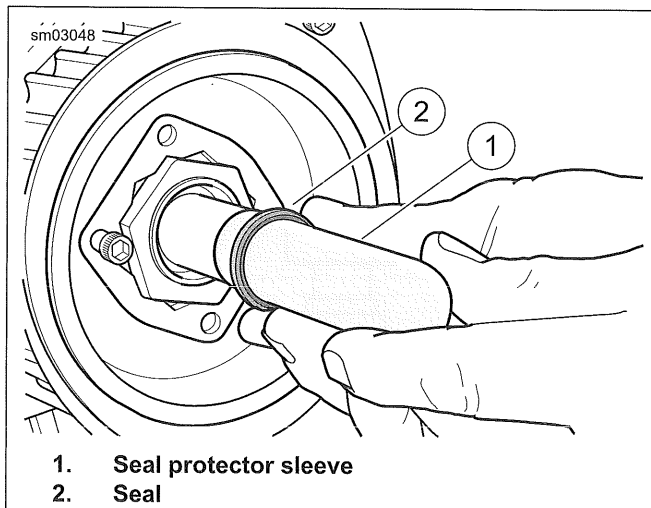
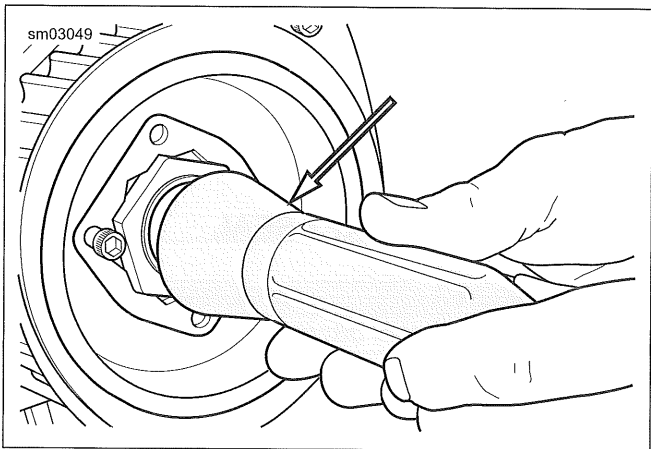

Figure 5-74. Seal Protector Sleeve
Figure 5-75. Seal Driver
3. See Figure 5-74. Place the seal protector sleeve (1) of MAIN DRIVE GEAR SEAL INSTALLER (PART NUMBER: HD-47933) over the end of the mainshaft.
5. Slide the seal (2) on the seal protector sleeve with the garter spring facing the bearing.
6. See Figure 5-75. Hand press seal onto place until seal driver contacts end of main drive gear using MAIN DRIVE GEAR SEAL INSTALLER (PART NUMBER: HD-47933). Lightly tap with a rubber mallet if necessary.